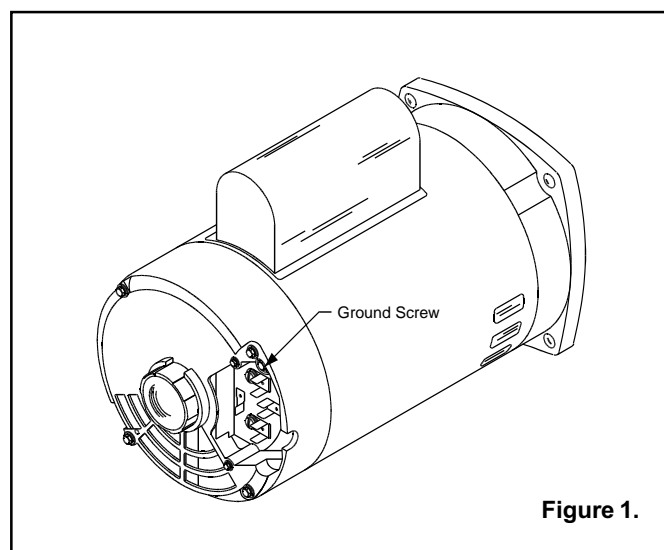

Figure 1.
6. Permanently ground the motor using the green ground terminal located on the inside of the motor canopy or access plate, see **Figure 1**. Use the correct wire size and type specified by National Electrical Code. Make sure the ground wire is connected to an electrical service ground.